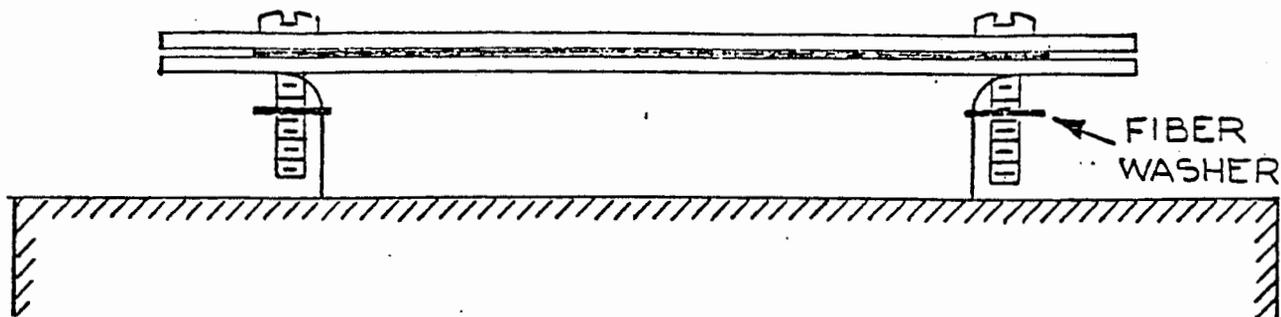
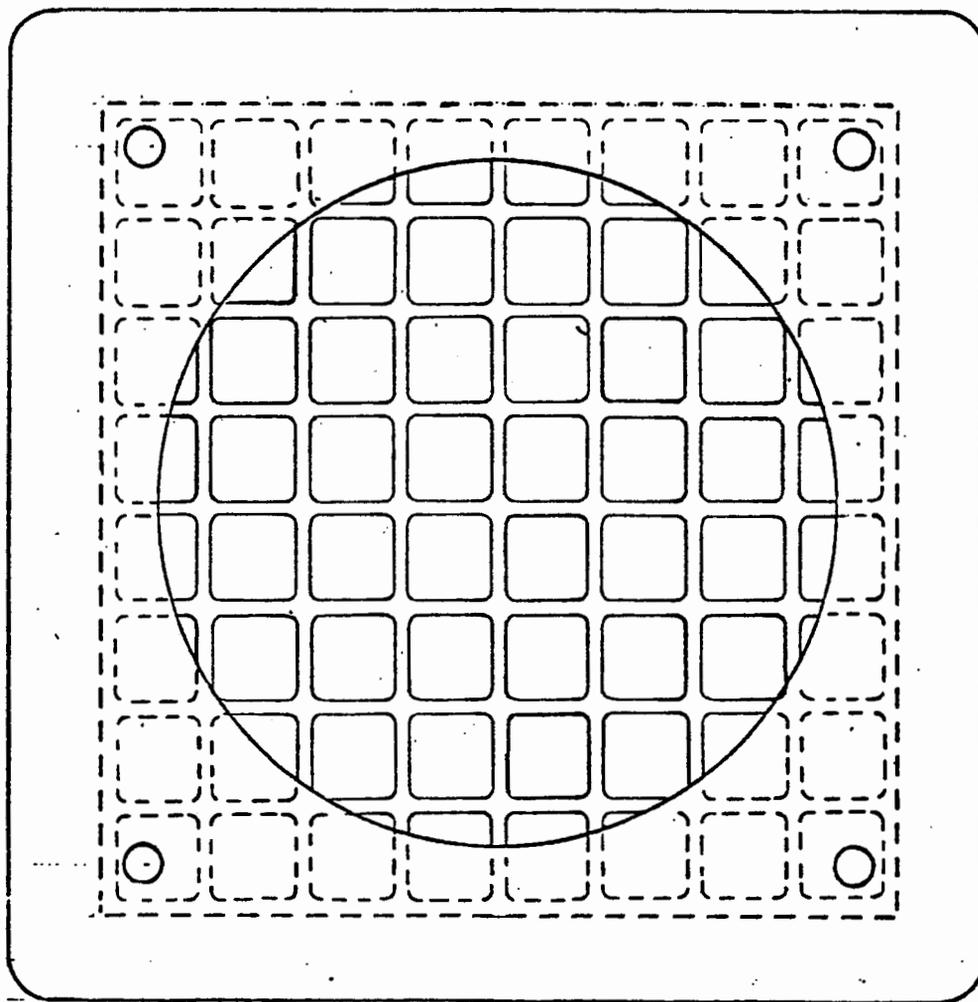

Figure 1A
Figure 1B
5. Place flange on table (Fig. 1A). Place fan screen on flange face. Place dress plate over screen. Line holes up. (Fig. 1B).